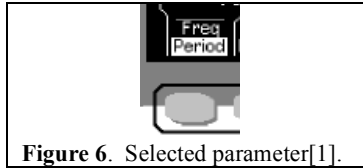
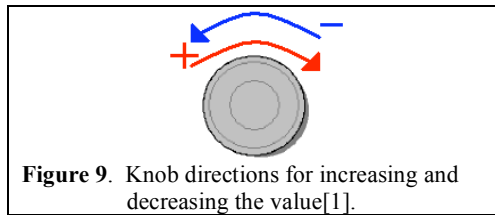

Figure 6. Selected parameter[1].
Figure 9. Knob directions for increasing and decreasing the value[1].
1. Press the dynamic button beneath the display until the desired definition method is selected. Selection is denoted by black text on a white background as depicted in Figure 6.
3. Change the selected digit by rotating the knob (marked 11 in Figure 6) clockwise to increase, or counterclockwise to decrease (as shown in Figure 9). The output of the Agilent 33220A will change immediately.